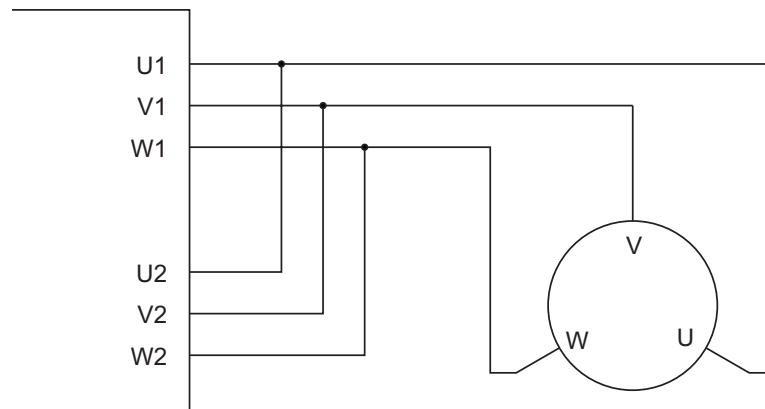

FIGURE 3. Single Channel Wiring Diagram
On the Single Channel SIM23xxS, each of the motor wires must be connected to both output terminals of the same letter as shown in Figure 3, below. Use the Encoders of Channel 1 for operation.
**The wiring shown in Figure 3 must be done only on the single channel version of the controller. Paralleling the wires on a dual channel product will cause permanent damage. Verify that your controller is an SIM2360S before you wire in this manner.**